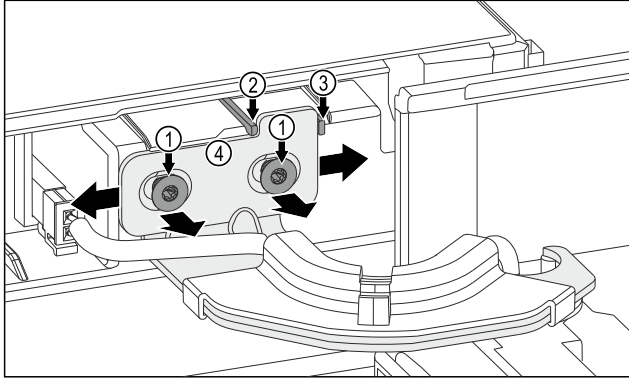

Fig. 11
- ▶ Loosen both screws Fig. 11 (1).
- ▶ To move the door to the right: Remove the locking knob Fig. 11 (3).
- ▶ To move the door to the left: Remove the locking knob Fig. 11 (2).
- ▶ The door has reached its end position: Tighten both screws Fig. 11 (1) tight.